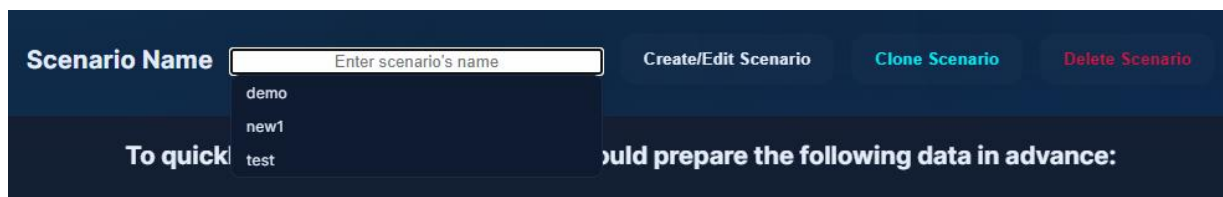

Figure 3.2. Open an existing scenario
- *Open an existing scenario*: type the name of the scenario in the text, select the scenario from the list (Figure 3.2)